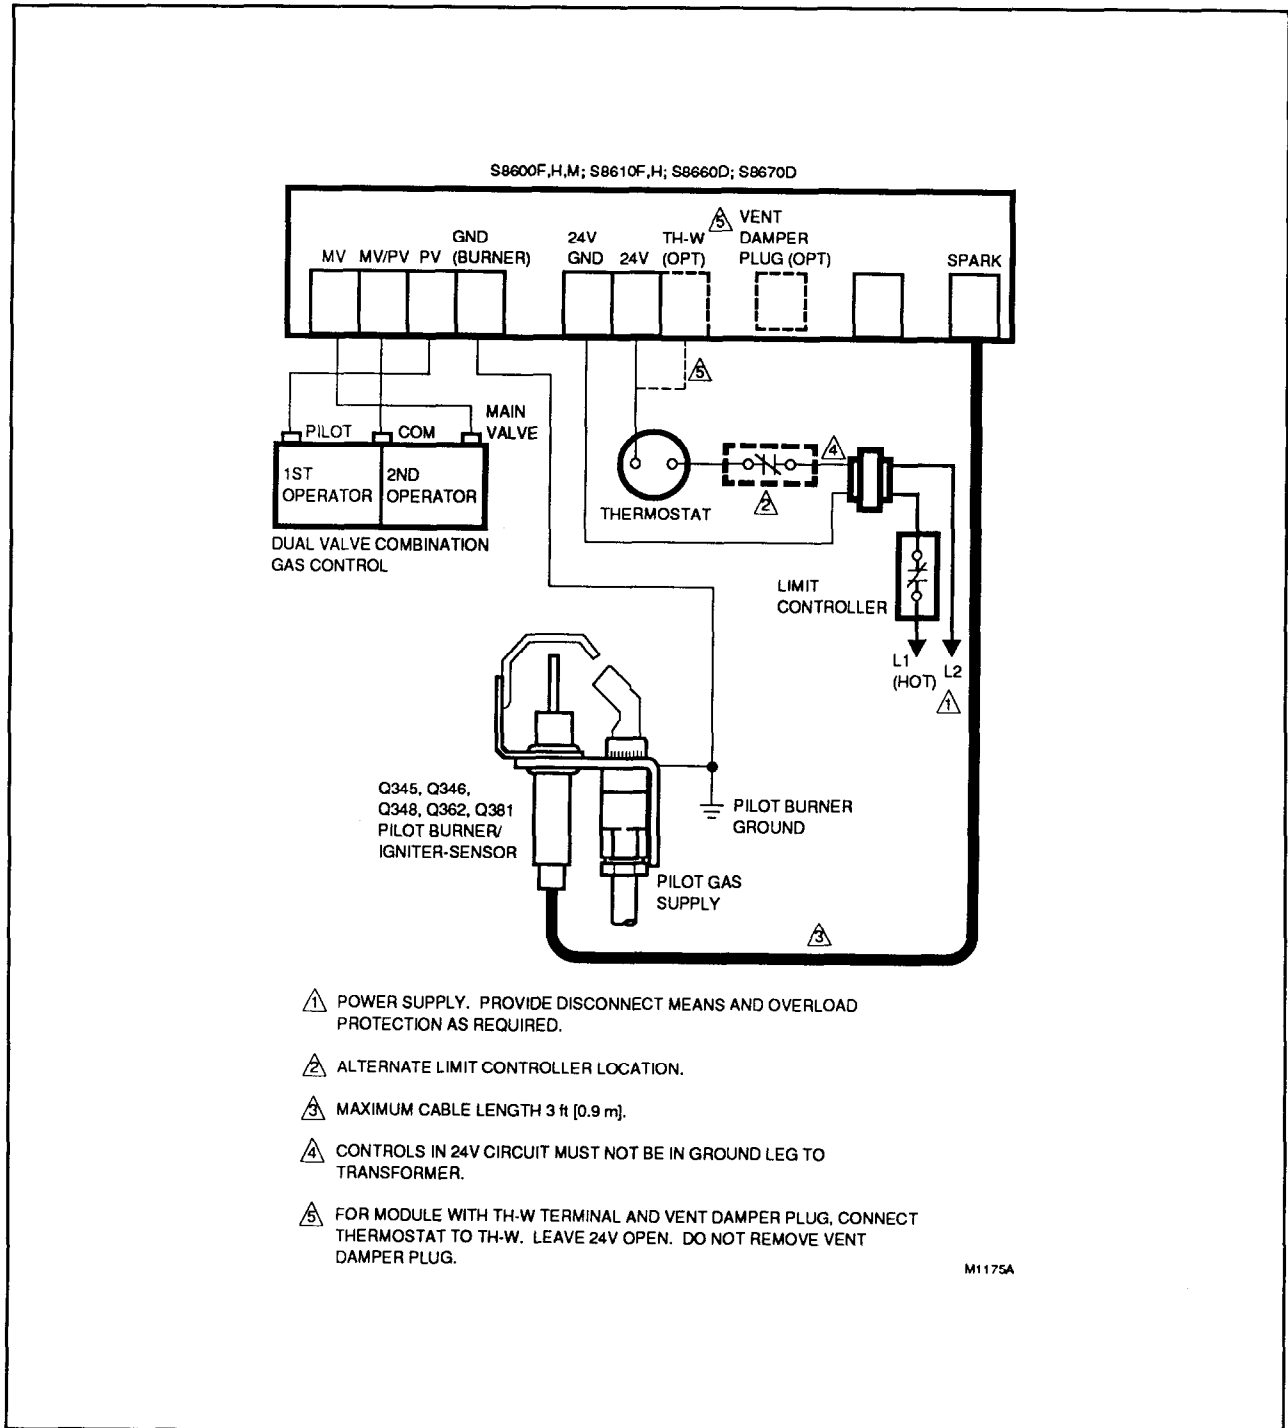

FIG. 2—S8600F,H,M; S8610F,H; S8660D; S8670D CONNECTIONS IN A HEATING SYSTEM WITH AN ATMOSPHERIC BURNER.
1. Connect remaining system components to the ignition module terminals as shown in the appropriate wiring diagram, Figs. 2 to 11.
- Fig. 2 is a basic circuit for a heating only atmospheric burner with S8600F,H,M; S8610F,H; S8660D or S8670D.